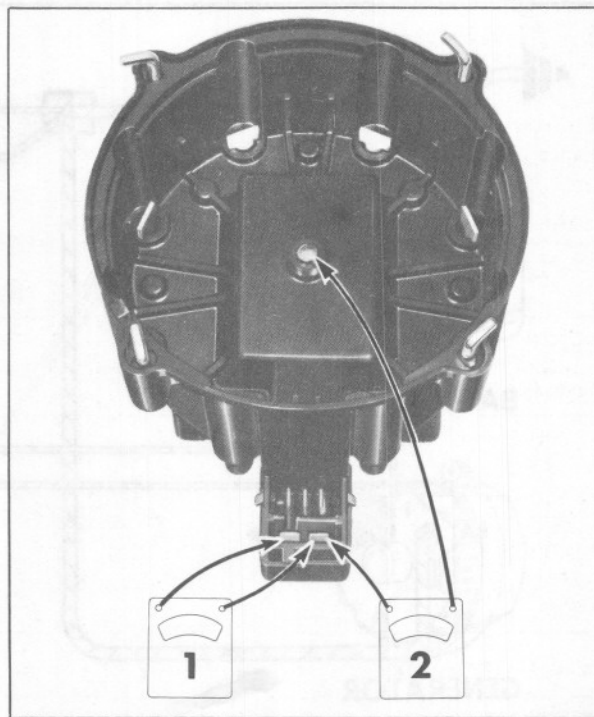

Fig. 6-6 Checking HEI Ignition Coil
b. Connect ohmmeter with one lead to the "BAT" terminal and the second lead to the "TACH" terminal as shown in position 1 of Fig. 6-6.
d. Connect ohmmeter with one lead to the "TACH" terminal and the second lead to the coil secondary output terminal as shown in position 2 of Fig. 6-6. Use middle or high scale.